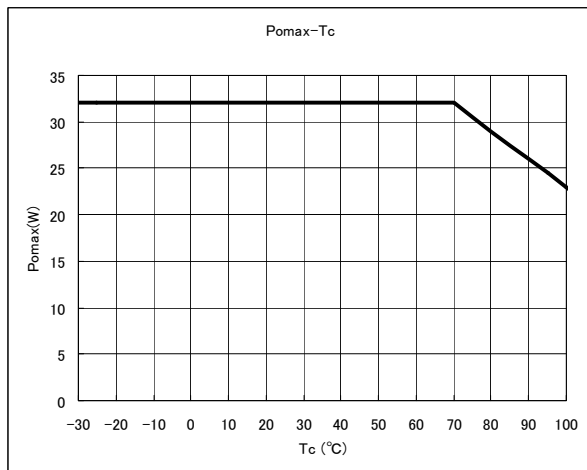
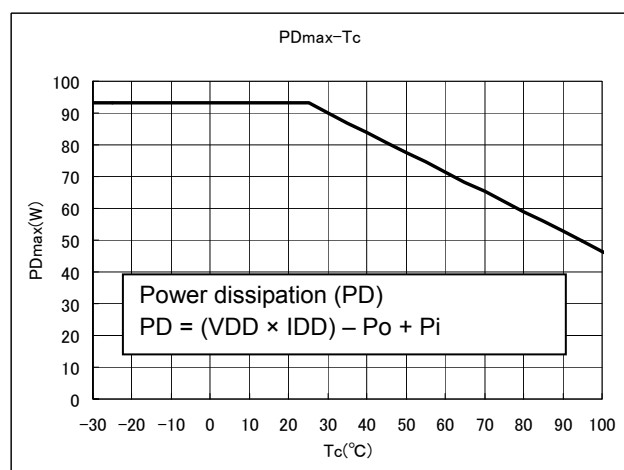

Figure 1 Pomax-Tc
Figure 2 PDmax-Tc
Note 2: The output power rating satisfies the range shown in Figures 1 and 2 according to the operating case temperature. Ensure that the device should be operated within the specified operating range. The figures below indicate the output power obtained 2 seconds after P_o is generated.
*When the device is used at $T_c = 100^\circ\text{C}$, the output power rating is 23 W as shown in Figure 1. When the power dissipation at $T_c = 100^\circ\text{C}$ exceeds the rating shown in Figure 2, the output derating is required to limit the dissipation within the specified range.
Note 5: The output power is intended to follow the rating provided in Figure 1 in Note 2.